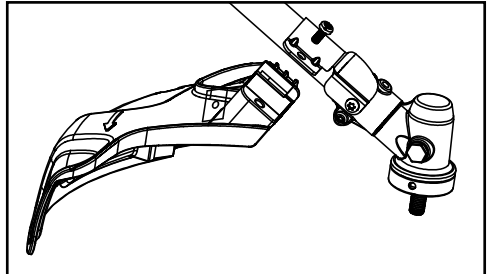

Fig. 4
2. Align the screw hole in the mounting bracket with the screw hole in the cutting head shield, Fig. 4.